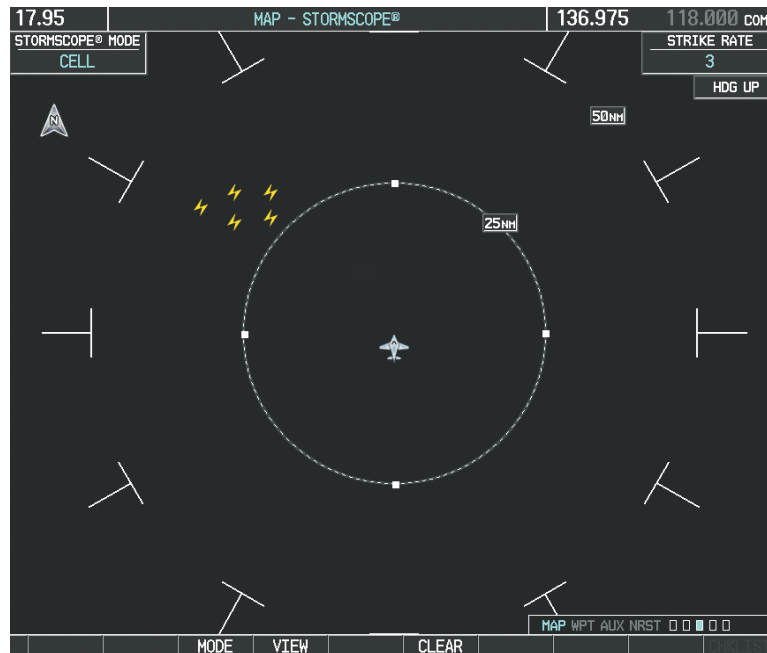

Figure 6-134 Stormscope Page
- 2) Turn the small **FMS** Knob to select the Stormscope Page (Figure 6-134).